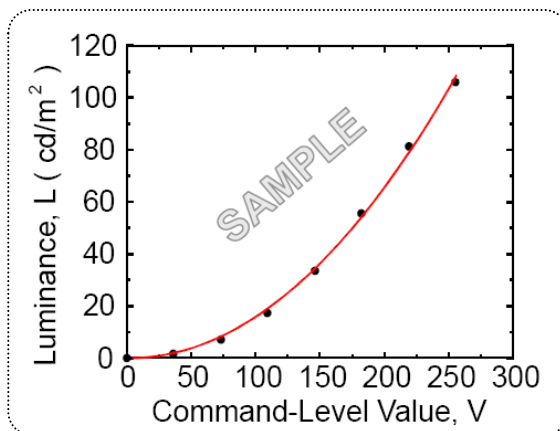

Figure.12 Sample Luminance vs. gray scale
8. **GSR** is the rate of gamma shift at up, down, left and right 60 degree viewing angle compare with center gamma. For more information see FIG.11 and FIG.12 (**By EZ Contrast**)